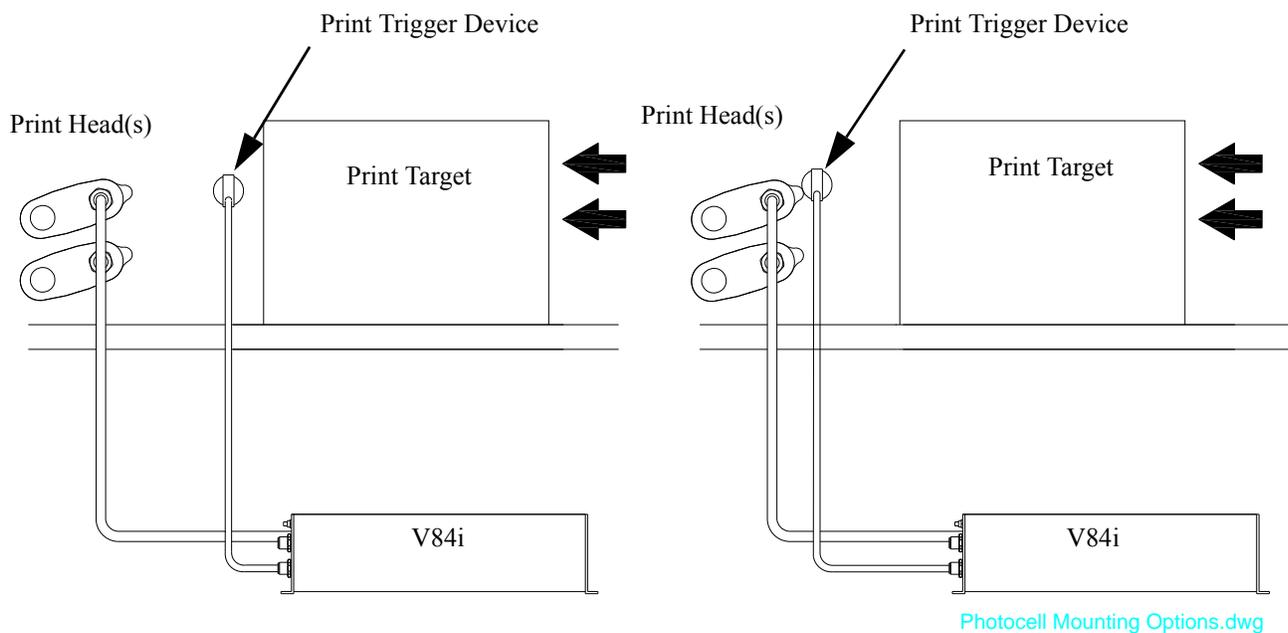

Figure 7
- Position the print trigger device so that it detects the Print Target before the target reaches the first valve of the print head(s), see **Figure 7**.